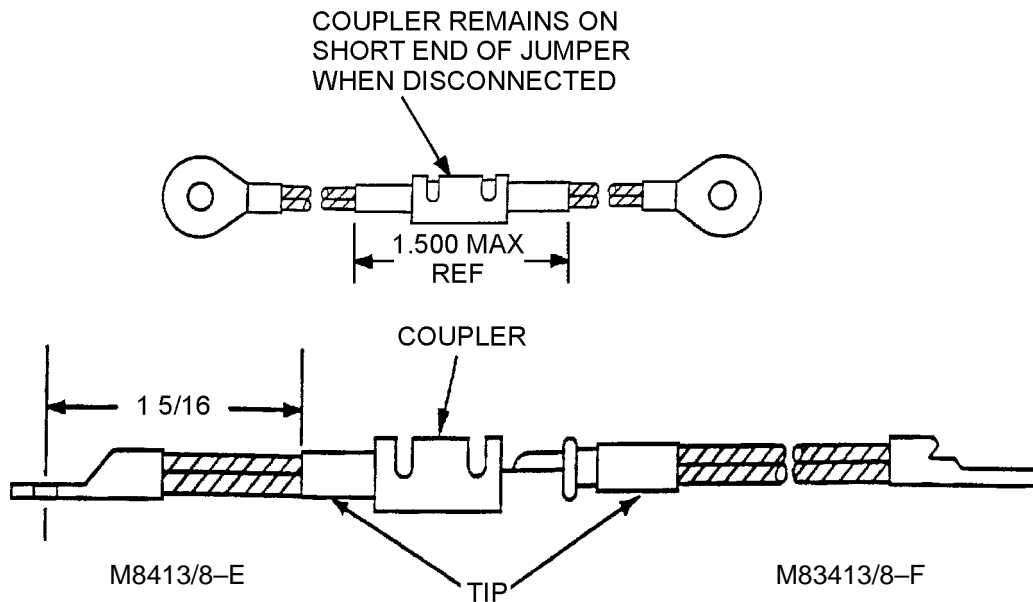
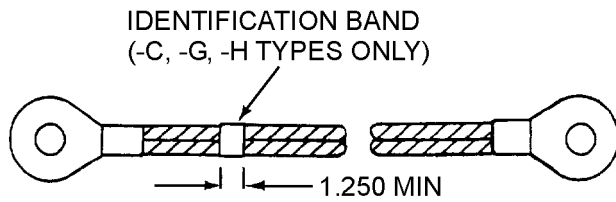

Figure 10. M83413/8-D (Jumper)
Figure 11. M83413/8-A, B, C, G, H
57. **FABRICATION.** Fabrication of jumpers consisting of copper is accomplished by the maintenance activity. The procedure will vary depending upon the series jumper required. M83413/8-D jumpers are illustrated in Figure 10. M83413/8-A, B, C, G, H are illustrated in Figure 11.